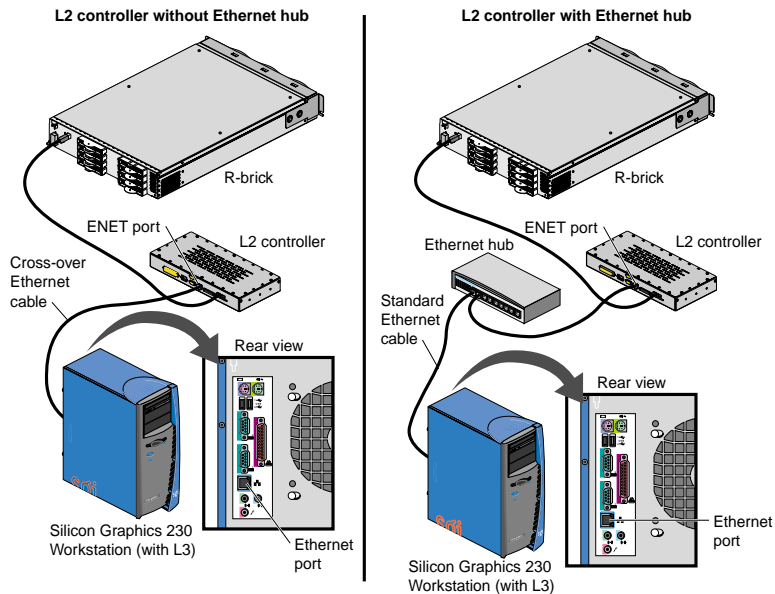

Figure 7 Connecting the Workstation to an SGI Origin 3000 with an L2 Controller
2. If your server does not have an Ethernet hub, connect the workstation to the ENET connector on the L2 controller with a crossover Ethernet cable (see Figure 7).
If your server has an Ethernet hub, connect the workstation to the leftmost port on the Ethernet hub. Connect one end of standard Ethernet cable to the ENET port on the L2 controller and connect the other end to a port on the Ethernet hub (see Figure 7).